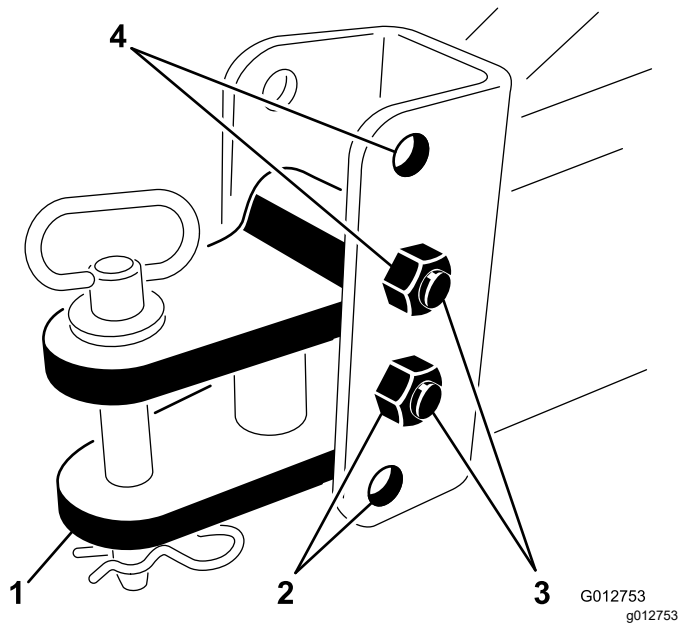

Figure 4
2. Adjust the transport frame hitch up or down according to the measurement of the machine hitch. Use the appropriate mounting holes as shown in the table below and in Figure 4.